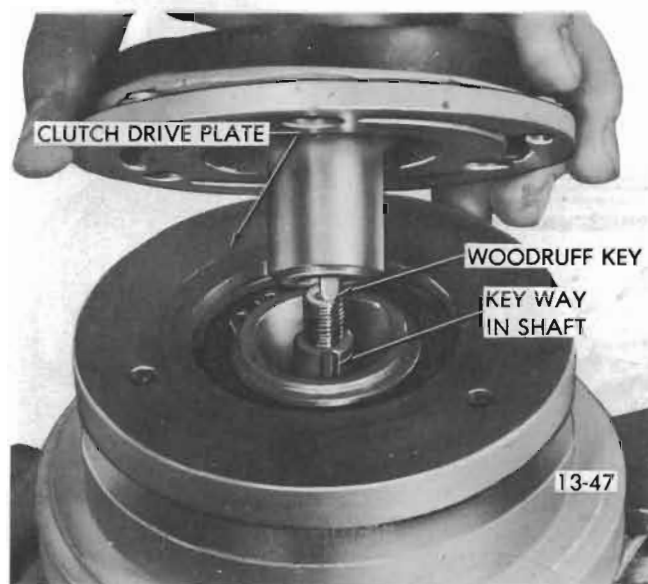

Figure 13-24 Positioning Clutch Drive Plate on Shaft
9. Insert woodruff key into hub of clutch drive plate so that it projects out approximately  $3/16$  inch (see Figure 13-24) and position clutch drive plate onto shaft.